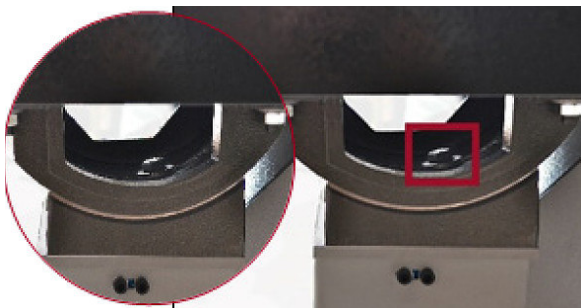

Fig. 6: Mounting the work surface
Step 2: Fix the support according to the frame and align it as shown in Figure 6 and tighten the bolts indicated by the arrow..
To change the inclination of the work surface, loosen the screw, Figure 6, slightly. Tilt the working surface. The inclination can be read from the corresponding line graduation.
The stud bolts, see Figure 6, is the only connecting component between the worktop and the frame of the machine.